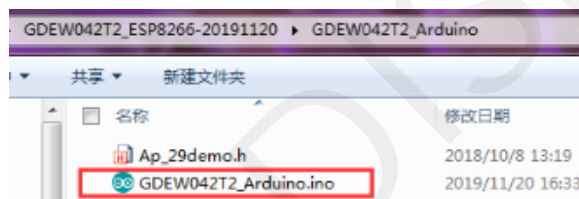

Figure 6 Open Arduino.ino
3. Open the Arduino.ino project file in the driver folder shown in Figure 6 with Arduino 1.8.6.